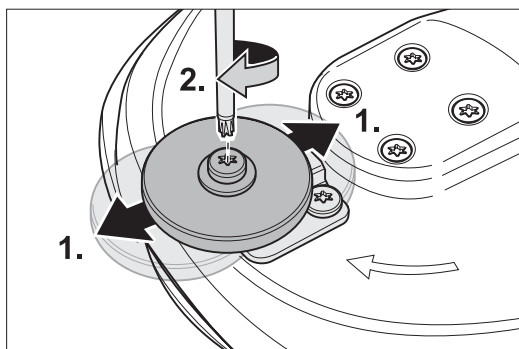

Fig. 52 ... and position.
- 3 Push the wall-protecting roller into the position you require and then retighten the screw (Fig. 52).